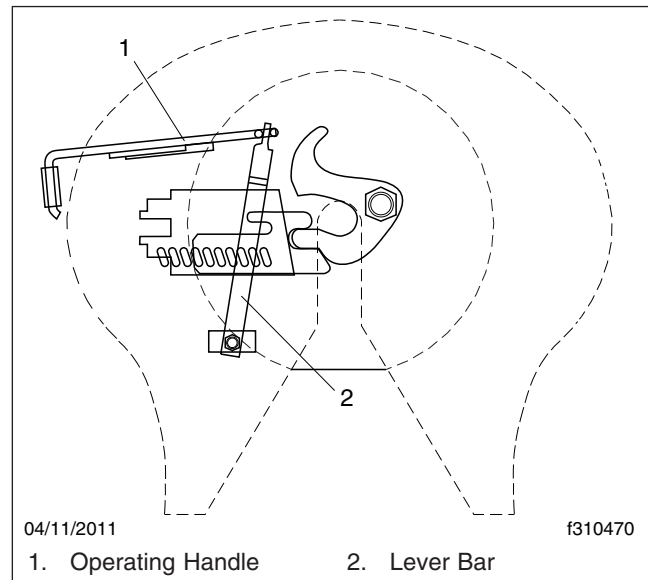

Fig. 2, Lever Bar and Operating Handle Alignment
5. The lever bar and operating handle must be in proper alignment. See **Fig. 2**. Replace any bent or misaligned lever bar or operating rod.